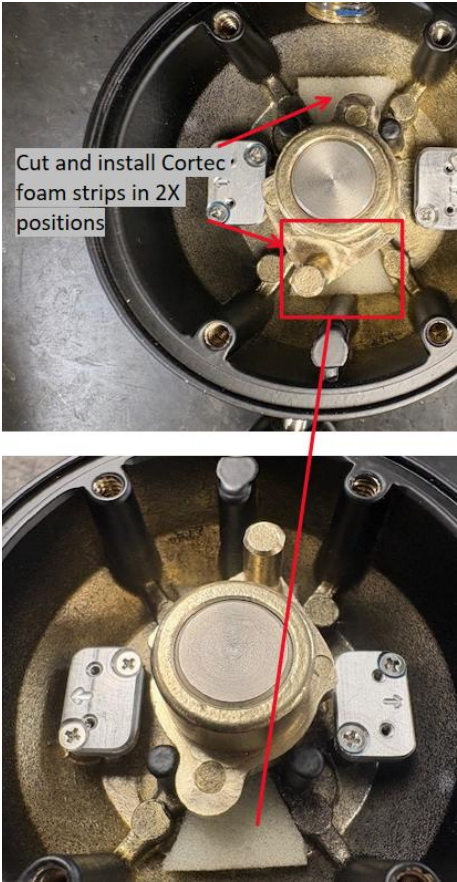

Figure 12: Installation of Cortec Foam Tape Strips
- b. Install the new Cortec foam tape strips. Cut the foam strips to fit in the space shown in Figure 12 and remove the adhesive backing. Firmly press into the locations shown in Figure 12. Ensure the tape is positioned such that it does not interfere with movement of the jog lever components.
3. Replace the Cortec foam tape strips located on the bottom face of the jog housing. The Cortec foam strips are included in the repair kit, 7170-RK-2. Refer to Figure 12 for placement and positioning of the foam tape strips. Ensure that the foam tape strips are positioned such that they do not interfere with movement of jog components.